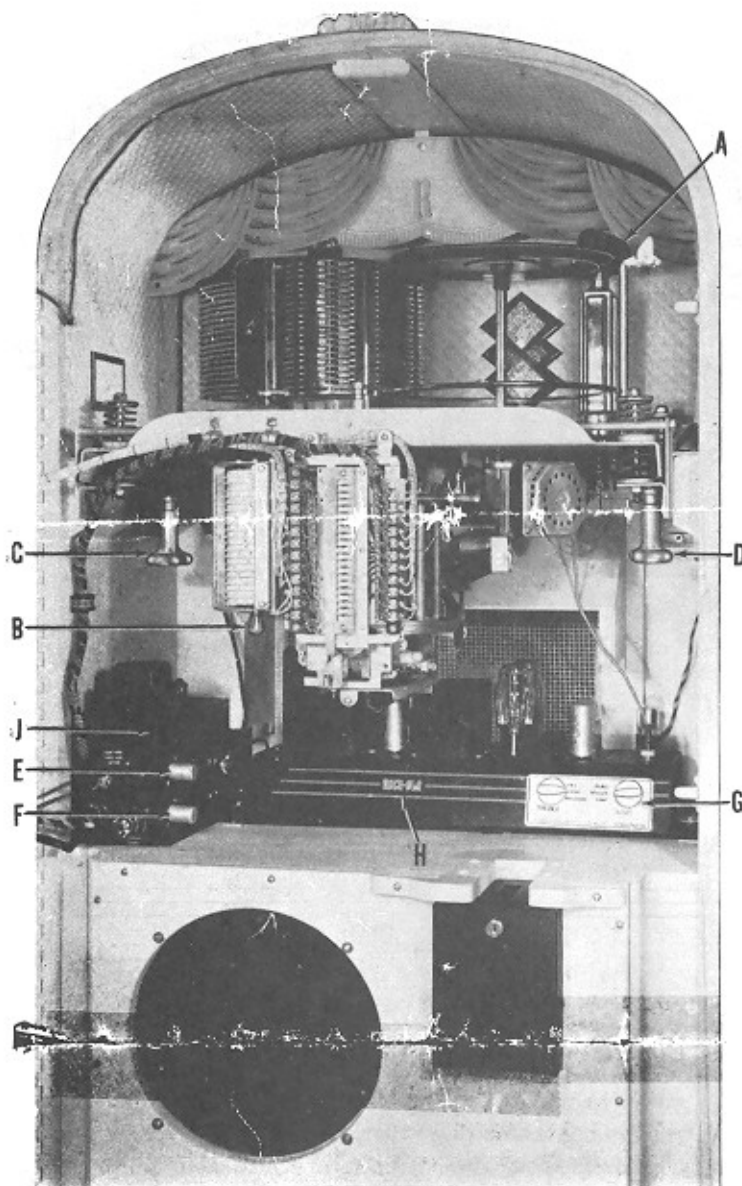

Fig. 2 – Interior Front View
1. Make sure that tubes and plug-in condensers in amplifier are tight in sockets (*H-Fig. 2*).
2. Check plugs on electrical distribution panel (*J-Fig. 2*) to make certain all are tight in sockets.
1. Treble and bass controls easily adjust amplifier tone for individual locations (*G-Fig. 2*).
15 watt fluorescent starter (E-Fig. 2) for inside front door fluorescent light.
20 watt fluorescent starter (F-Fig. 2) for Magic-Glo fluorescent light.
1. Loosen thumb screw on tone arm (A-Fig. 2).
1. Push in bar (B-Fig. 2).
Unscrew large wing nuts (C and D-Fig. 2) on each side until fully extended. If these nuts are not unscrewed before operating phonograph, an acoustic howl will result. (Always clamp mechanism when transporting phonograph).